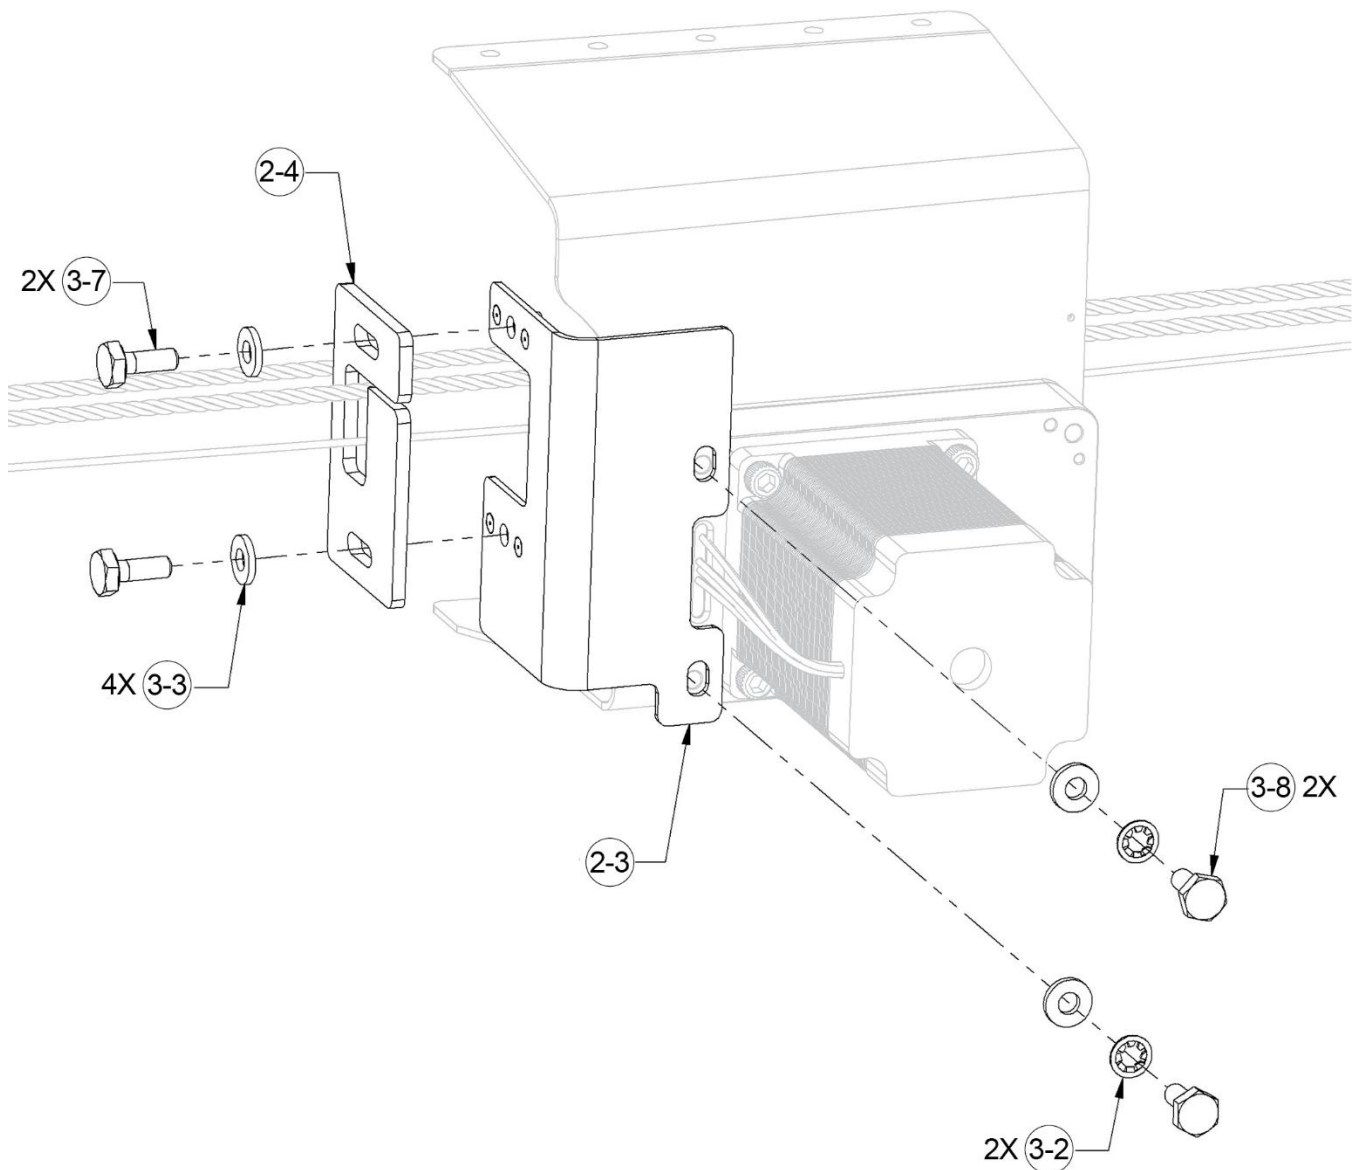

Figure 13: Attaching Cable Guard Bracket and Cable Guard to Roll Servo
12. Attach cable guard bracket to roll servo (see Figure 13).
13. Capture aileron crossover cable and bridle cable with cable guard, as shown in Figure 13, and then attach cable guard to cable guard bracket (see Figure 13).